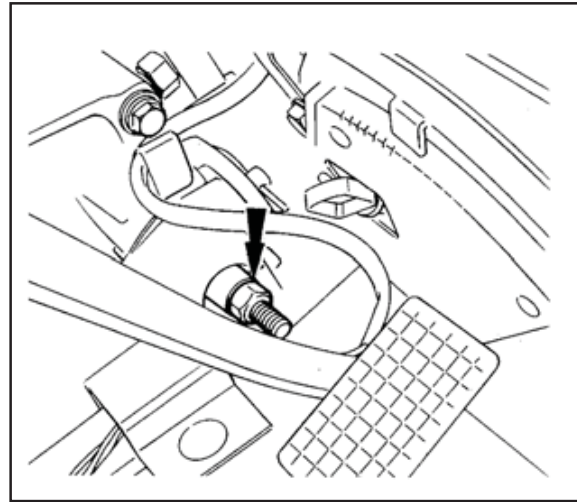

Fig.100
3. With the aid of an assistant, rotate one of the wheels slowly, at the same time tighten the adjuster nut (Fig. 100) until the wheel just locks. It is important to always rotate the wheel forwards.